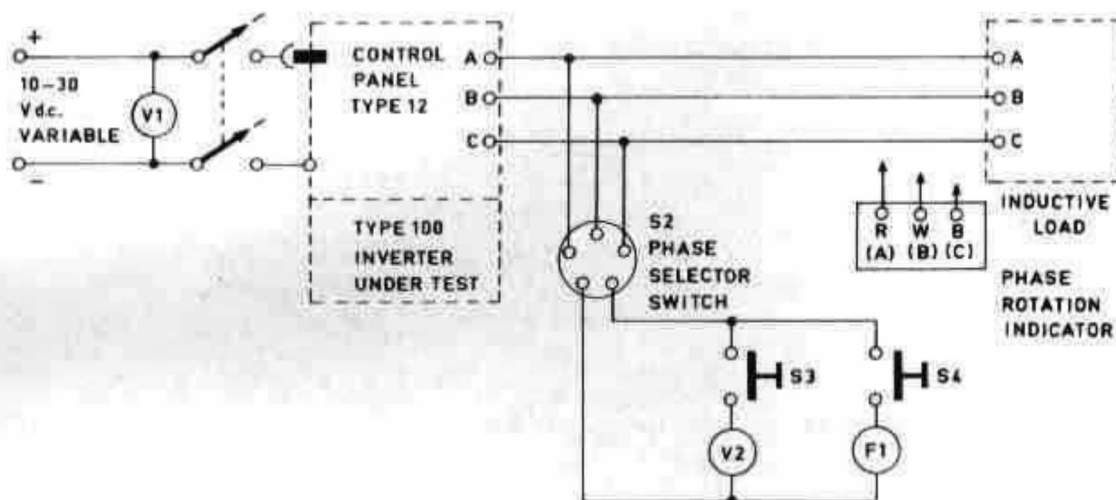

Fig. 1 Test circuit
5. Connect the inverter to the test circuit shown in fig. 1 and proceed as detailed in the following paragraphs.